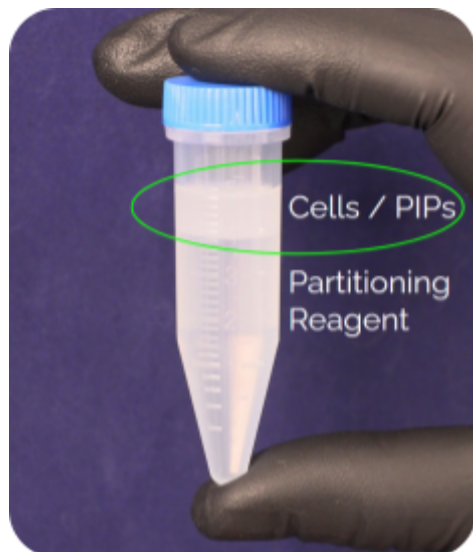

Figure 1. (circled in green) Cells and PIPs mixture floating on top of excess Partitioning Reagent
6. Add 4000 μL Partitioning Reagent to the cell:PIP mixture (Figure 1) via multiple dispenses of a P1000 pipette. **Do not use serological pipettes.**